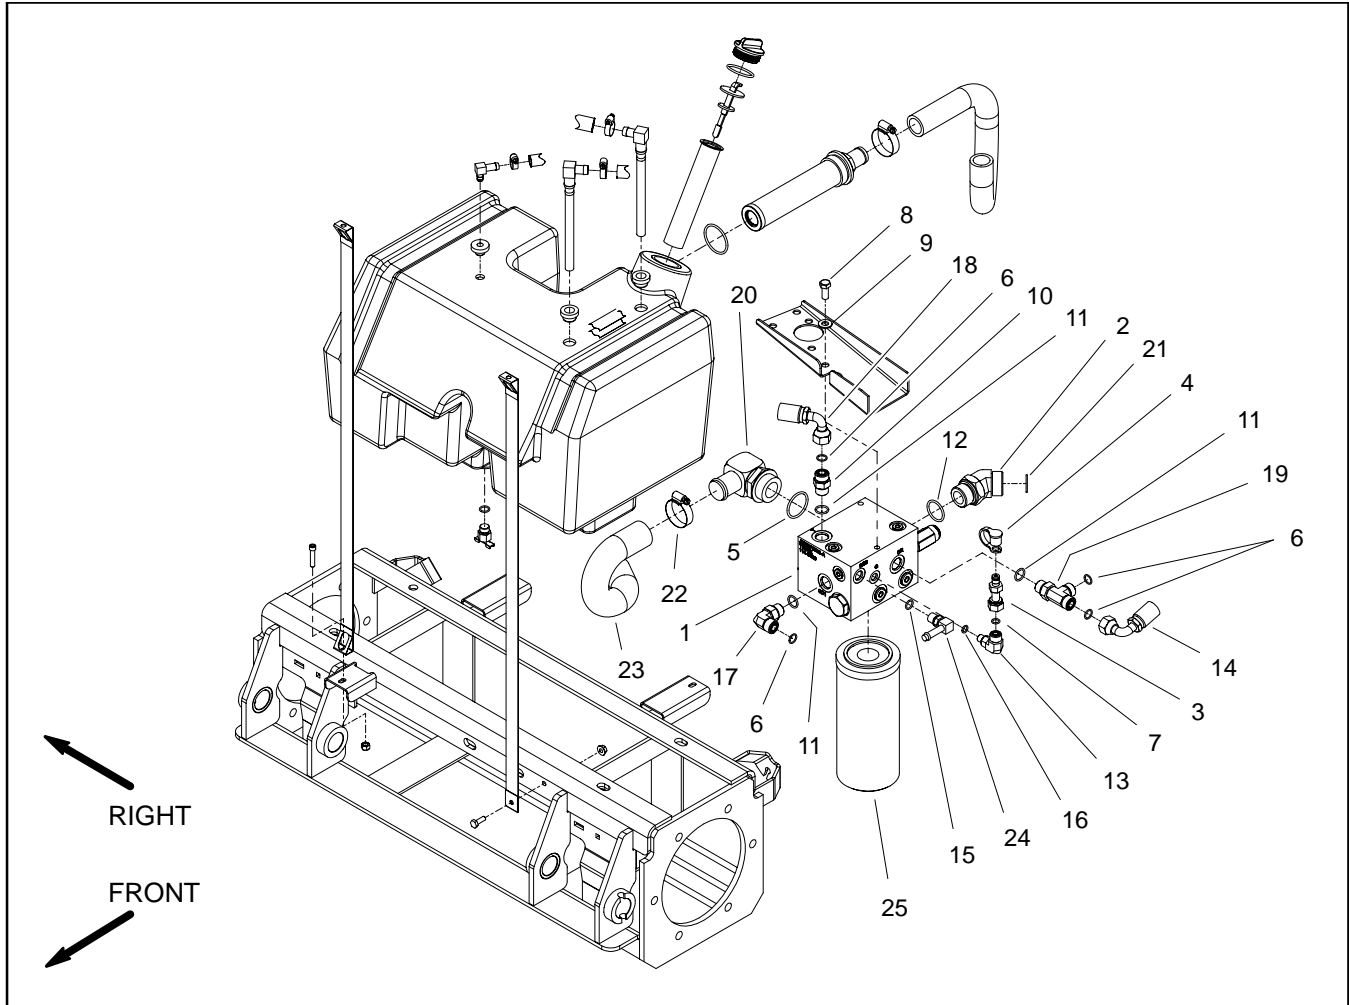

Figure 78
### Removal (Fig. 78)
4. Remove filter manifold from the frame using Figure 78 as a guide.
### Installation (Fig. 78)
2. Install filter manifold to the frame using Figure 78 as a guide.